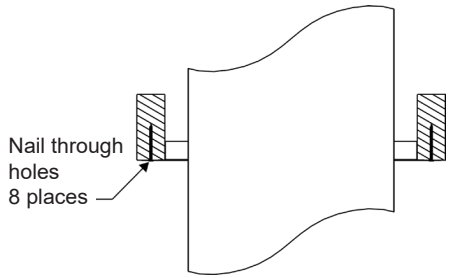

Fig. 36b
2. Secure Firestop Spacer (BVRFS) as shown in Figure 36b using nails through the provided holes.